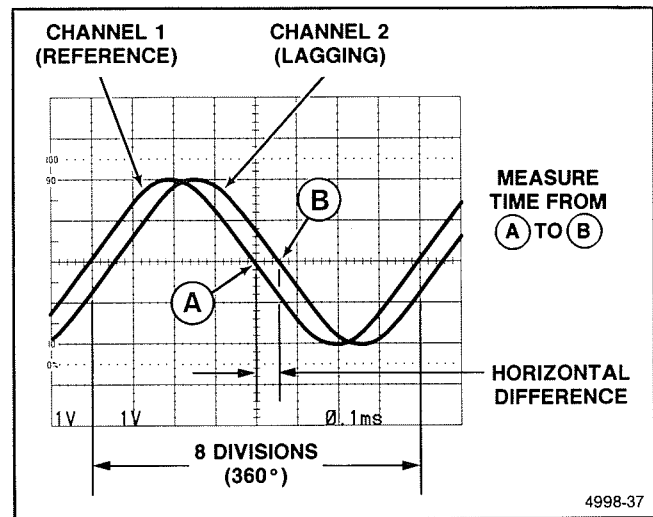
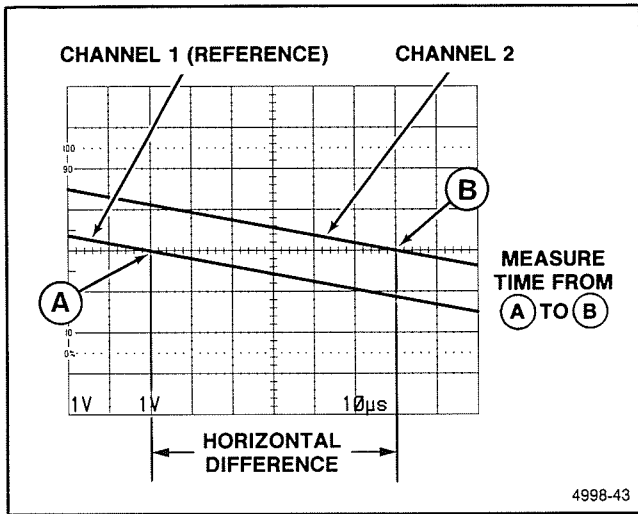

Figure 6-24. Phase difference.
Figure 6-25. High-resolution phase difference.
9. Position the displays and adjust the SEC/DIV Variable control so that one reference-signal cycle occupies exactly eight horizontal graticule divisions at the 50% rise-time points (see Figure 6-24). Each division of the graticule now represents  $45^\circ$  of the cycle ( $360^\circ \div 8$  divisions), and the horizontal graticule calibration can be stated as  $45^\circ$  per division.
**EXAMPLE:** The horizontal difference is 0.6 division with a graticule calibration of  $45^\circ$  per division as shown in Figure 6-24.
**EXAMPLE:** If the sweep speed were increased 10 times with the magnifier (X10 Magnifier out), the magnified horizontal graticule calibration would be  $45^\circ/\text{division}$  divided by 10 (or  $4.5^\circ/\text{division}$ ). Figure 6-25 shows the same signals illustrated in Figure 6-24, but magnifying the displays results in a horizontal difference of 6 divisions between the two signals.